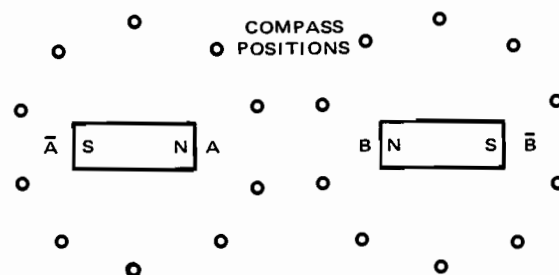

Fig. 6-2-2
7. Using procedure outlined in steps 3 to 6, locate the two magnets as indicated in Fig. 6-2-2.
2. Describe the resulting magnetic field of Fig. 6-2-2. _____